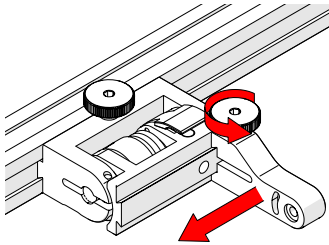

Fig. 62 - Position swing arm
5. Loosen the swing arm knob and slide the swing arm to the opposite end of the probe holder bracket (*Fig. 62*) or the preferred position. Tighten the swing arm knob.